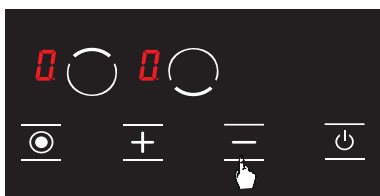

Figure 22
- Press the **-** key again. (see Fig. 22) This shall be performed right after the 2nd step. Child lock is deactivated permanently. In other words, child lock shall continue to be deactivated even if the unit is turned off and on again.